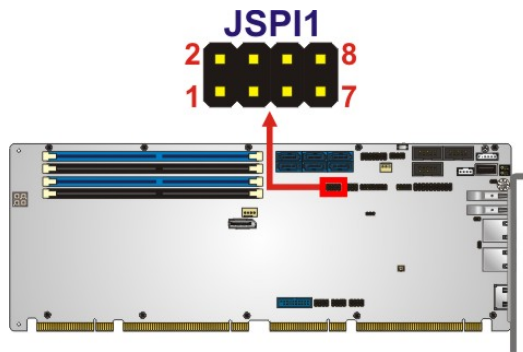

Figure 3-22: SPI Flash Connector Location
- CN Location:** See **Figure 3-22**